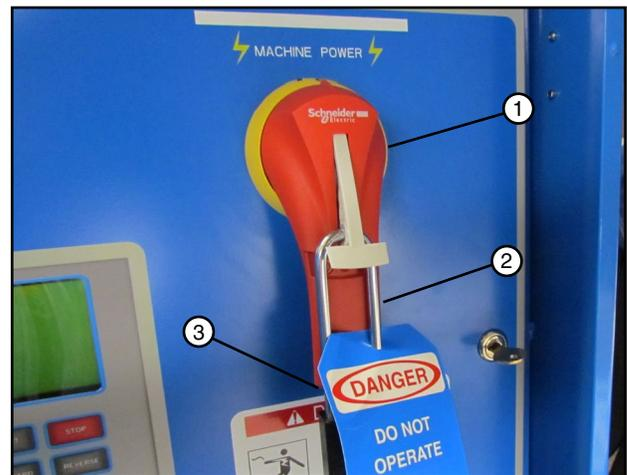

Figure 53-2 1. Main Disconnect
2. SHUT OFF and lock the control panel main power disconnect. See figure 53-2.
FILL OUT the blue (OSHA safety color code) tag and attach to the disconnect after locking. See figure 53-2.